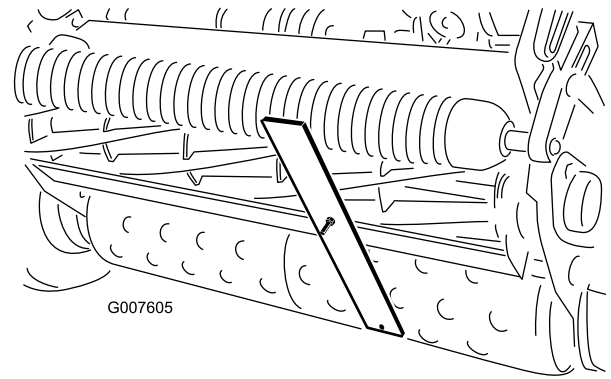

Figure 49
4. Hook the screw head on the cutting edge of the bedknife and rest the rear end of the bar on the rear roller (Figure 49).